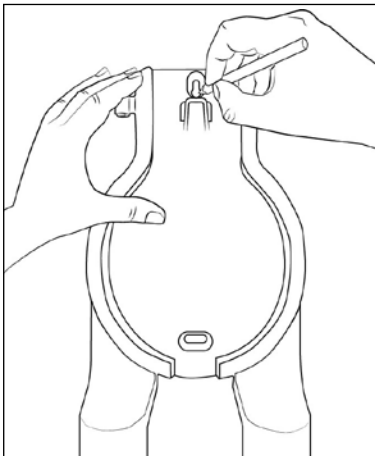

Fig. 4
- 2) Use the wall bracket **16** to mark the two drill holes on the wall (see Fig. 4).